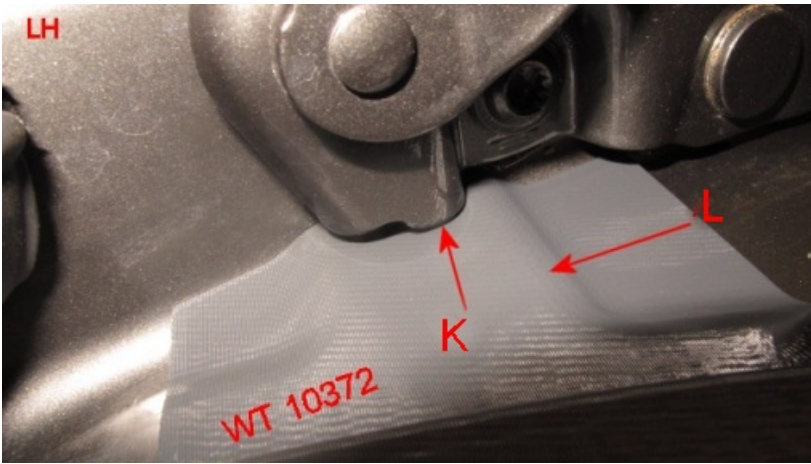
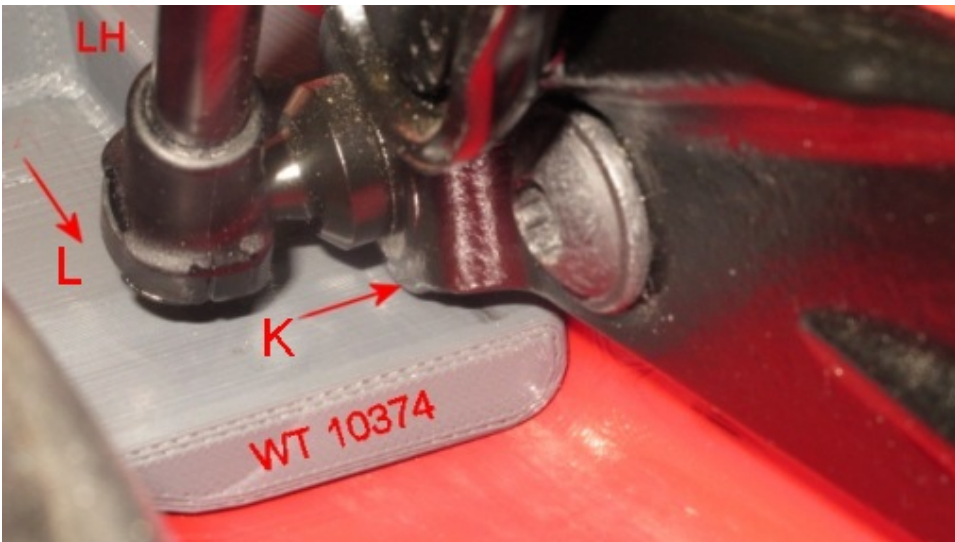

Figure 7
Figure 8
In this position the rearward section of hinge should be touching the gauge at point K (see Figure 7). If the gauge is tight or loose, not touching, at K then slacken both fasteners and adjust hinges to achieve the base setting at K. The gauge adjustment at K is achieved at the hinge rear mounting bolt therefore although the front mounting bolt has to be slackened the hinge should only rotate at the front bolt with the vertical adjustment performed at the rear bolt. Re-tighten the fasteners **Note New GT** the torque figure of $28\text{Nm} \pm 2$ is critical
In this position the rearward section of hinge should be touching the gauge at point K (see Figure 8). If the gauge is tight or loose, not touching, at K then slacken both fasteners and adjust hinges to achieve the base setting at K. The gauge adjustment at K is achieved at the hinge rear mounting bolt.
- (H) Adjustment in height profile adjacent to the rear screen is achieved at the forward, nearest the rear screen, part of the hinge, slacken both hinge fasteners but make adjustments primarily around fastener C to raise or lower at point H. Re gauge check hinge to maintain gauge setting B figure 7 (GT) figure 8 (GTC)
- (J) Adjustment in height profile at the rear of the boot lid is achieved at the striker plate, slacken both fasteners D then raise or lower at point J.
- (G) To achieve panel gaps the boot lid surface can be moved in both axis at the hinge / boot lid connection, slacken fastener B and fasteners A to release the captive plate to allow adjustment